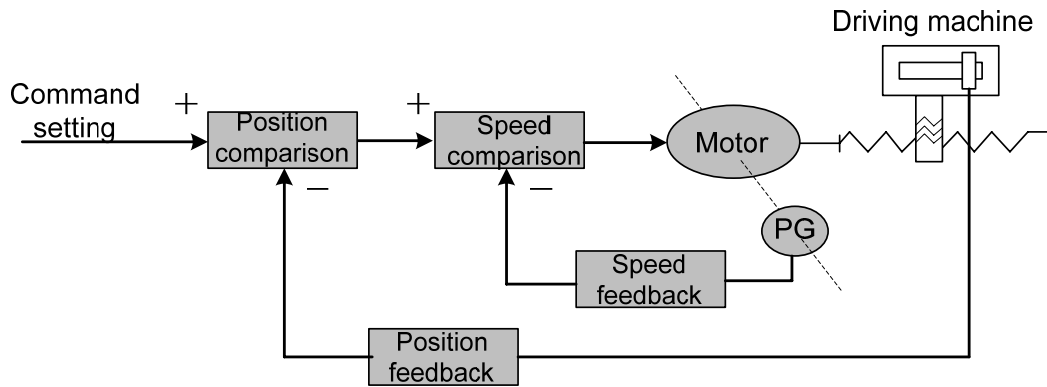
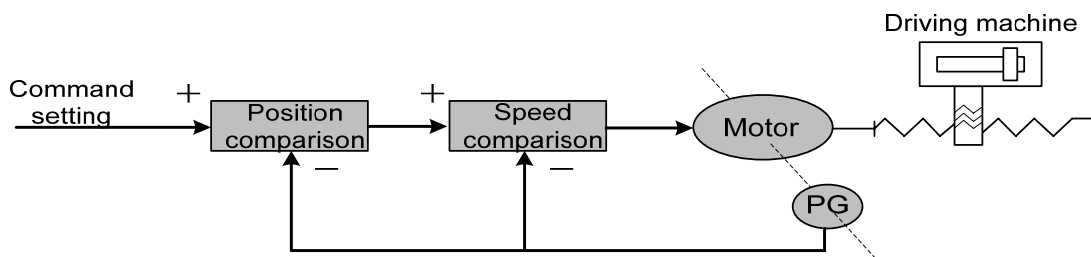

Figure 1-4 Full-closed loop control
Figure 1-5 Semi-closed loop control
- **Closed-loop control:** The controlled variable of the control system is detected and transferred to the controller by the feedback device to affect the output of the controller and thereby to change the controlled variable. Closed-loop control is classified as **full-closed loop control** and **semi-closed loop control** by the detection points. The feedback device's direct detection of the controlled variable and use of it for feedback is called full-closed loop control (e.g. Figure 1-4) and the position of the gear is the controlled variable. The full-closed loop control over the position of the gearing is achieved by using the grating mounted on the gearing as a position feedback device and the encoder for the servomotor as a speed feedback. In the absence of the grating, the encoder for the servomotor is used as a position and speed feedback (see Figure 1-5). In this case, this is the semi-closed control over a mechanical position.